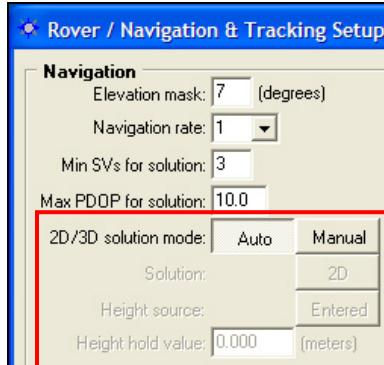

Figure 43: 2D/3D Solution Mode
- **2D/3D Solution Mode:** Click the *Auto* or *Manual* button to determine how height will be applied to a 2D navigation solution (see Figure 43).